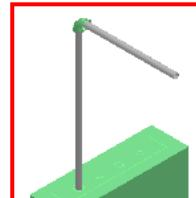

Figure 12: Conduit Run in the South Direction
56. Move the cursor in the South direction in the graphic view and click in the graphic view to accept the position of the conduit as shown in the highlighted section of Figure 12. Right -click to terminate the **Route Conduit** command.